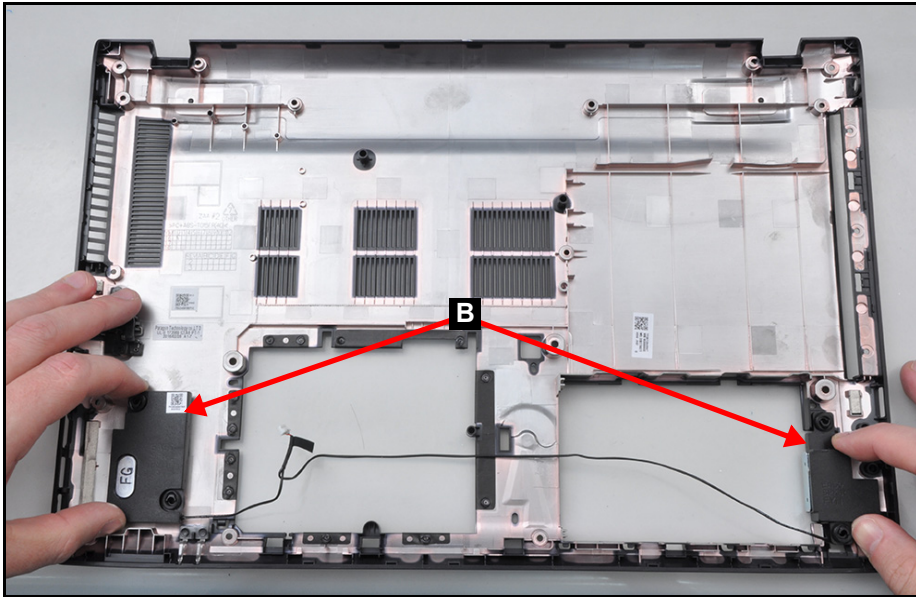

Figure 3-107. Replacing the Speaker Module
1. Place the speaker module (B) to its compartment on the base cover (Figure 3-107).